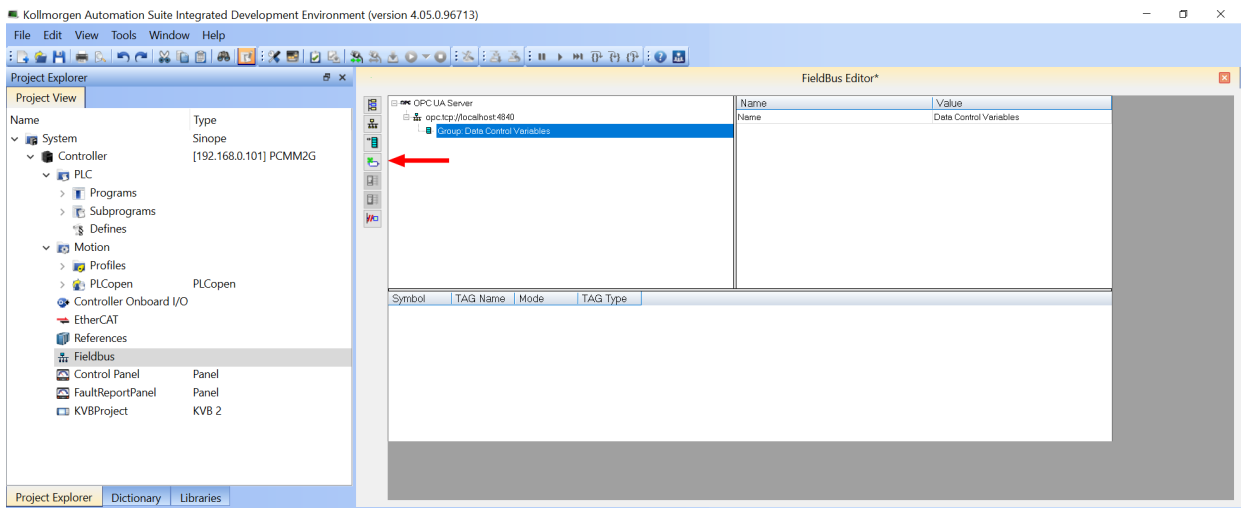

Figure 6-10: Insert Variable button
1. In the Fieldbus Editor tree, select the **OPC UA Server** data group to assign a new variable to. The **Insert Variable** button in the vertical toolbar is activated. (Figure 6-10)